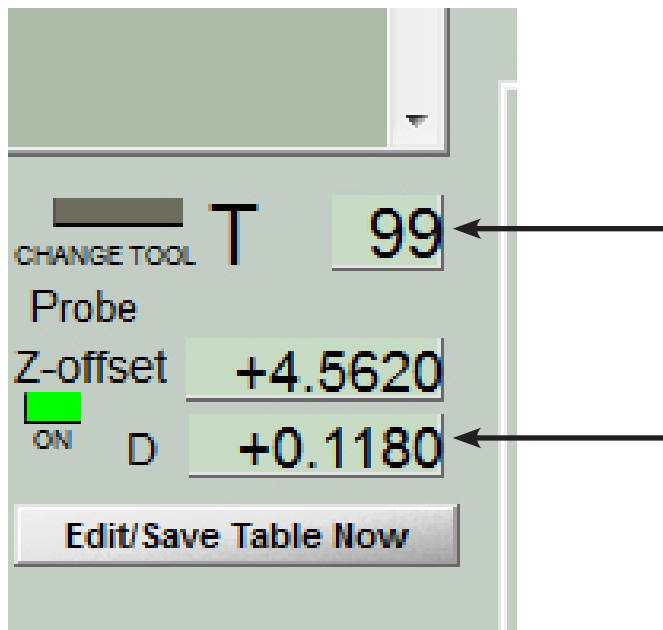

Figure 8.9: Data for Probe (T#99)
- Enter this diameter for Tool #99 on the Offsets Screen (figure 8.9). Ignore the Length for now and if it is zero then the Offset On/Off LED will not be lit. This is unimportant.